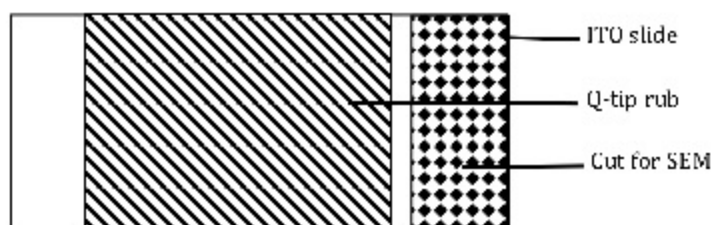

Figure 7. Schematic of ITO slide sample collection
- o Rub this firmly and vigorously across $\frac{1}{2}$ - $\frac{3}{4}$ of the slide (on active side) to remove biomass. Cut off the end of the swab with flame-sterilized scissors, and drop into MP biomedical kit FastDNA bead tube (Figure 7).
- Score the bottom fifth of the slide with a glass cutter and snap off with sterile tweezers (Lay tweezers pointing in same direction as wire for best results). Then, preserve slides for SEM (Appendix 4). *Be careful of cut glass* (Figure 7)